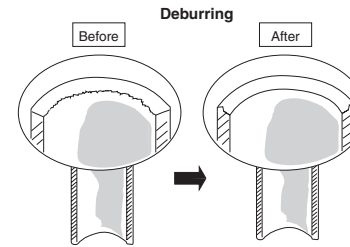

Fig. 5-1
- (1) Cut the copper tube to the required length with a tube cutter. It is recommended to cut approx. 30 – 50 cm longer than the tubing length you estimate.
- (2) Remove burrs at the end of the copper tube with a tube reamer or file. This process is important and should be done carefully to make a good flare. Be sure to keep any contaminants (moisture, dirt, metal filings, etc.) from entering the tubing. (Figs. 5-1 and 5-2)